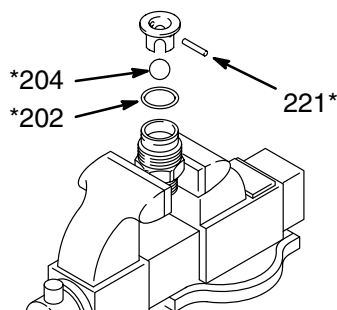

Fig. 17
2. Disassemble the intake valve. Use a pick to remove the old gasket (202). Clean and inspect the parts. See Fig. 17.
3. Reassemble the intake valve using a new gasket (*202*), ball (*204*) and pin (*221*). See Fig. 17.